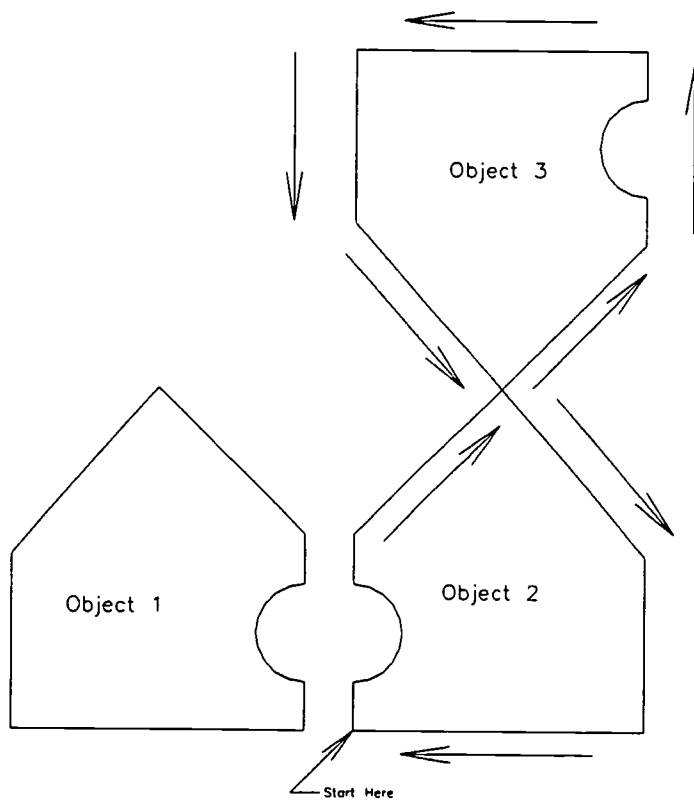

Figure 7
7. Move object 3 back to the peak of object 2 as shown in figure 7. Then,
- Use **Edit >> Order Path >> Prof_Start** and select the appropriate element such that the tool path for object 2 begins at the point shown in figure 7.
- Create the “figure 8” toolpath as shown in figure 7. First, group the elements in object 3 in the required order. Second, **Insert >> After >> element >>** select the appropriate element in object 2. Third, **Edit >> Order Path >> Sequence Move >> Go.**